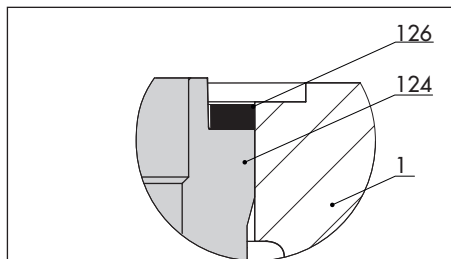

Fig. 9-3: Gasket (126)
1. Undo the body nuts (14) gradually in a crisscross pattern.
2. Lift the yoke (60), bonnet (2) and plug with plug stem (5) off the body (1).
3. Remove the gasket (17), shims (125) and gaskets (126).
5. Measure how many gaskets (126) are required as described in section 9.4.5. Insert new gaskets (126) into the groove of the seat retainer (124). See Fig. 9-3.